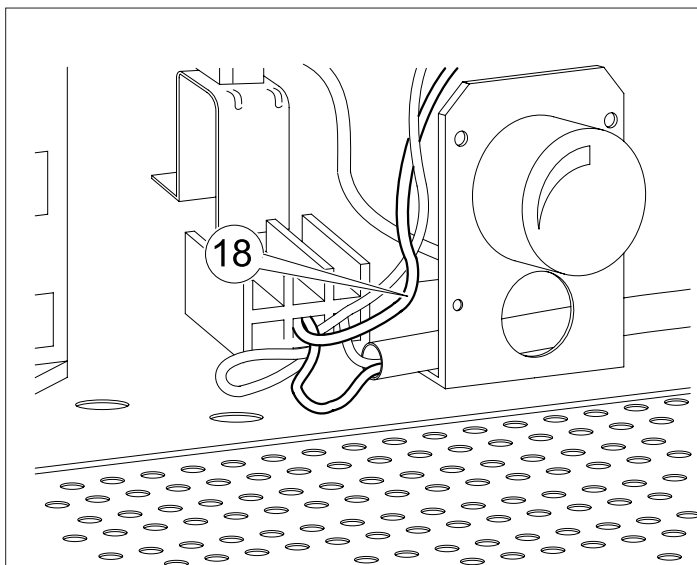

Fig. 4.19
- Connect the refrigerating group electrically (insert into the junction box the blue wire n. 18) (Fig. 4.19)